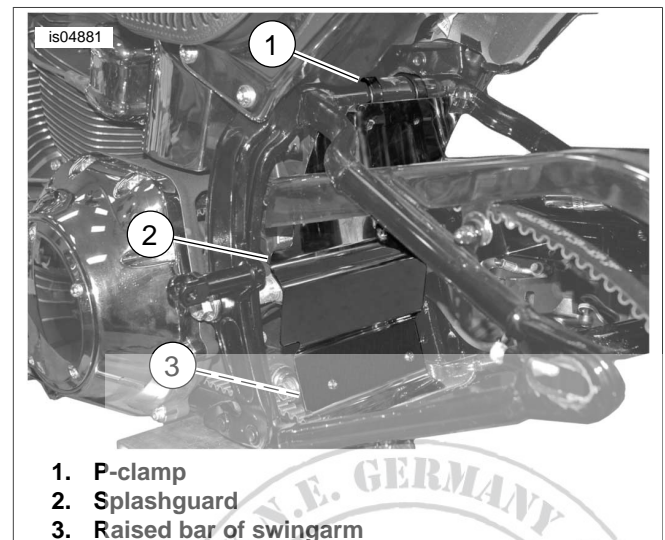
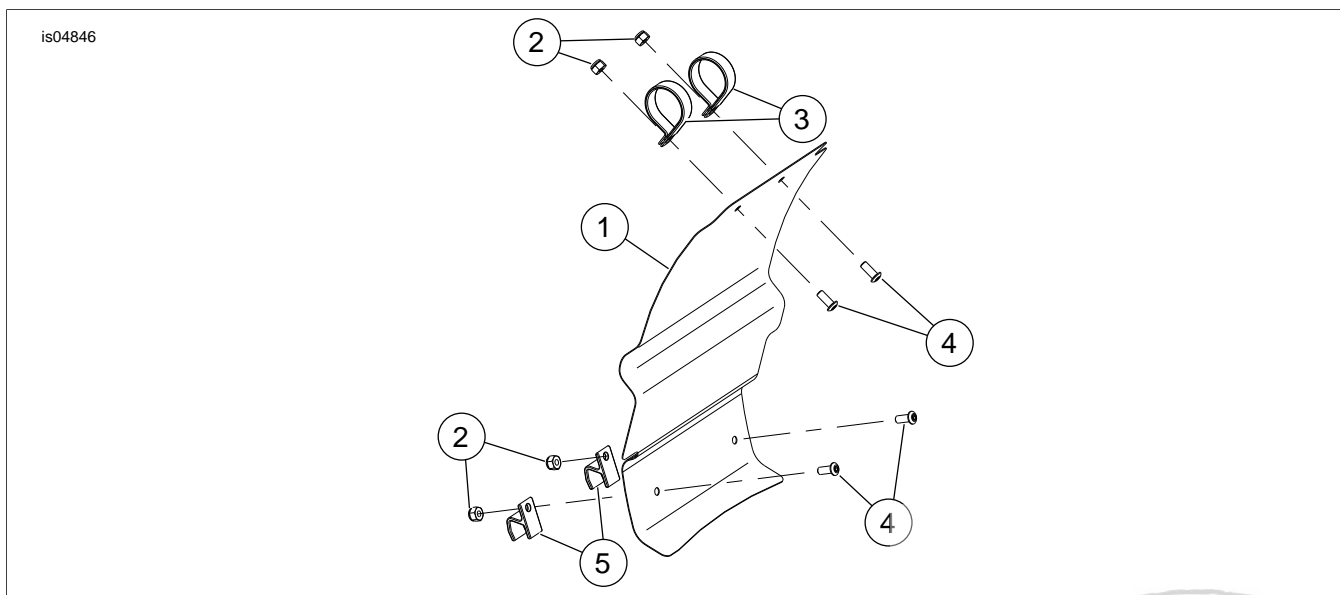

Figure 2. Install Splashguard
Figure 4. Service Parts for Softail Splashguard Kit
See Figure 4 and Table 1.
5. See Figure 4. Using two screws (4) and nuts (2), loosely install the H-clips to the back of the splash guard vertically as shown.
6. See Figure 2. Slide two P-clamps (1) around the upper bar of the rear fork. The straight side of the clamp will face rearward, as shown in Figure 4.
7. See Figure 4. Orient the splashguard with the polished side facing the rear wheel. Align the upper two holes with the P-clamp holes. Secure splashguard to the P-clips with two screws (4) and locknuts (2). Do not tighten at this time.
9. See Figure 4. Ensure the splashguard does not touch the drive belt on the left side and the rear brake line on the right side, then tighten P-clip mounting screws (4) and nuts (2) securely.